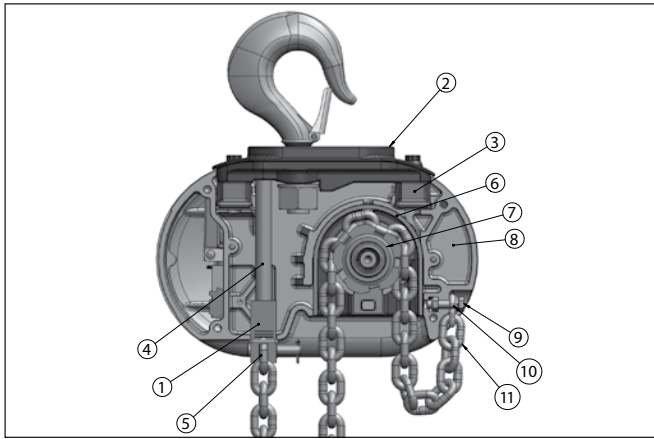

Figure 8. Attaching Load Chain Double Reeved Models
Remove the hook suspension, (2) suspension screws, (1) dead end pin, (1) washer, and (1) cotter pin from the packaging. It should be noted that the suspension includes a dead end bolt and block for supporting the dead end of the load chain as shown in Figure 8.
Place the suspension assembly into the recess on top of the hoist. The dead end block should project through the bottom of the hoist with the pin hole and slot aligned to the underside of the hoist as shown in Figure 8. If these are not aligned as shown, lift the head of the bolt from the hex recess in the adapter and turn the bolt and block assembly and reseat the bolt head to obtain the proper alignment. Do not change the position of the dead end block on the bolt to attain this alignment.
7. Press (DOWN) control and cautiously lower hook until lower limit switch stops the downward motion. 7 to 11 chain links (depending on hoist model) should be between the loose end link and the hoist entry. See Figure 8.